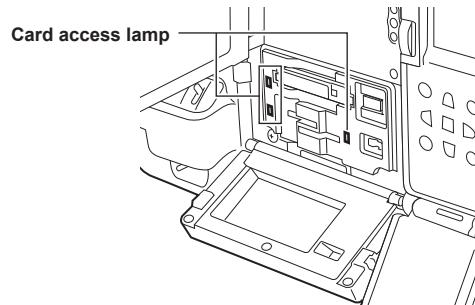

Fig. 2
- 5 Confirm that the card access lamp of the card slot that the memory card is inserted is illuminated in orange. (Fig. 2)